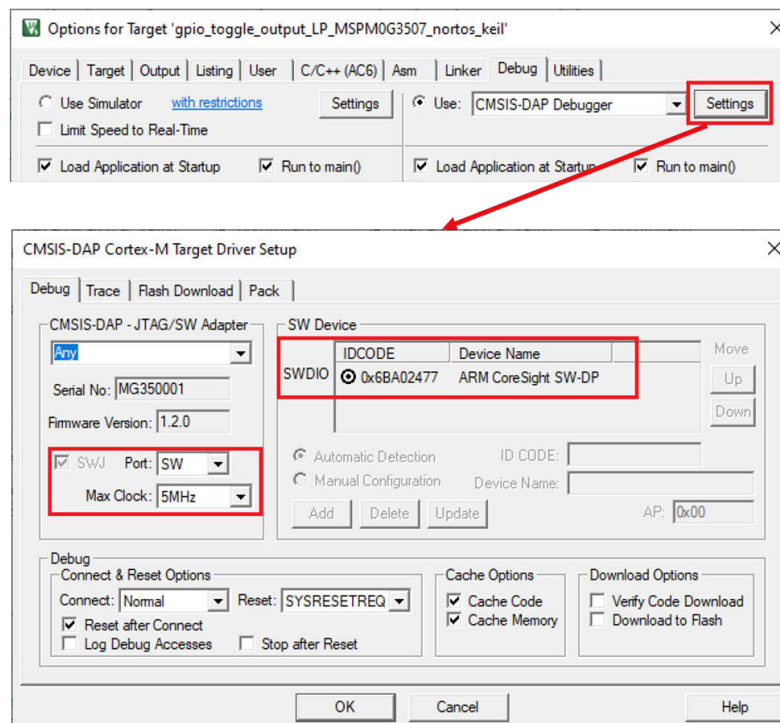
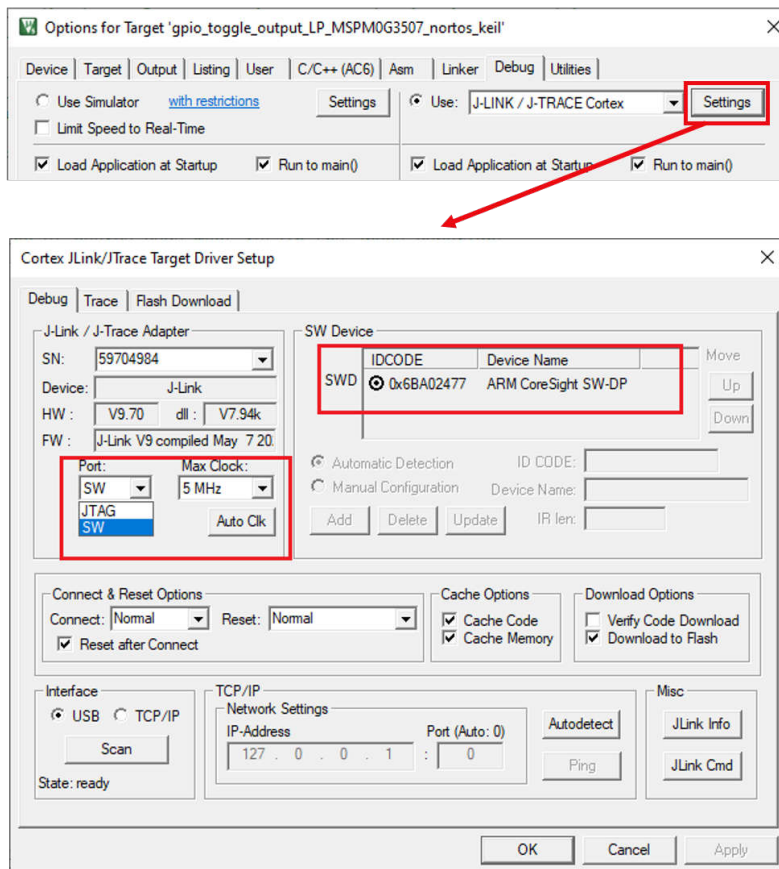

Figure 3-47. Check the Setting of XDS110 Probe
Figure 3-48. Check the Setting of J-Link Probe
- Click on the *Settings* button. On the *Debug* tab, make sure the settings match with Figure 3-47 and Figure 3-48.